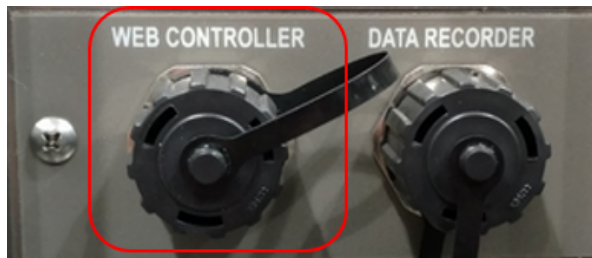

Figure 2.1: Network port on chambers with the following models: EP, EGN, EWP, EWS, EN
1. Plug an RJ-45 Ethernet cable into the Ethernet port on the chamber (see Figure 2.1).